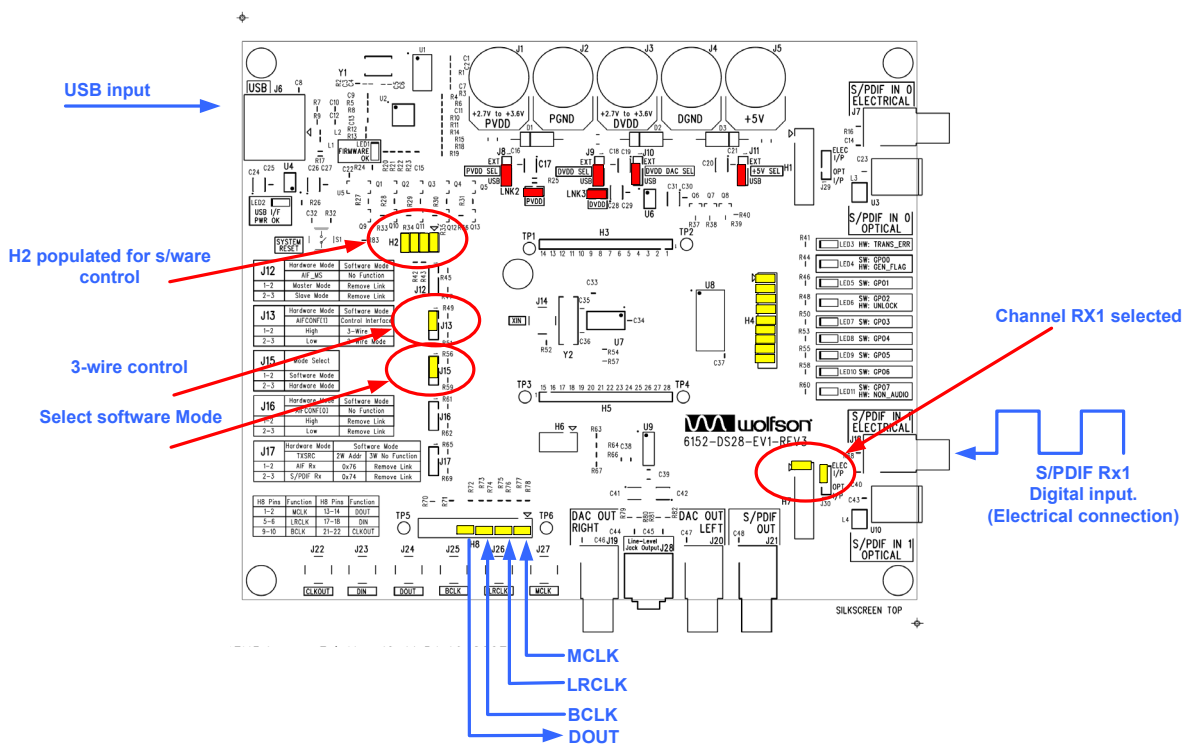

Figure 8 RX1 Input Path to Audio Interface Evaluation Board Configuration
- Figure 8 illustrates the jumpers which must be made on the board.